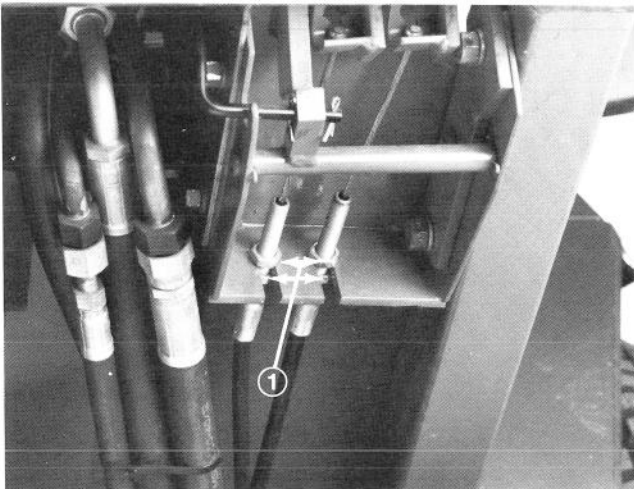

Figure 48
1. To reduce free travel of turn pedals – tighten the brakes – loosen front nut on threaded end of brake cable (Fig. 48). Then tighten rear nut to move cable backward until turn pedals have 1/2 to 1 inch (13 to 25 mm) of free travel. Tighten front nut after brakes are adjusted correctly.